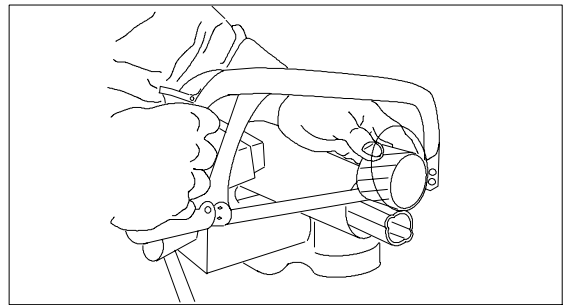

Fig.8.
5. Cut a profile tube piece of similar length as the plastic tube piece. Shorten the other PTO shaft similarly. Finish by filing the sharp edges. See fig. 8.– 9.